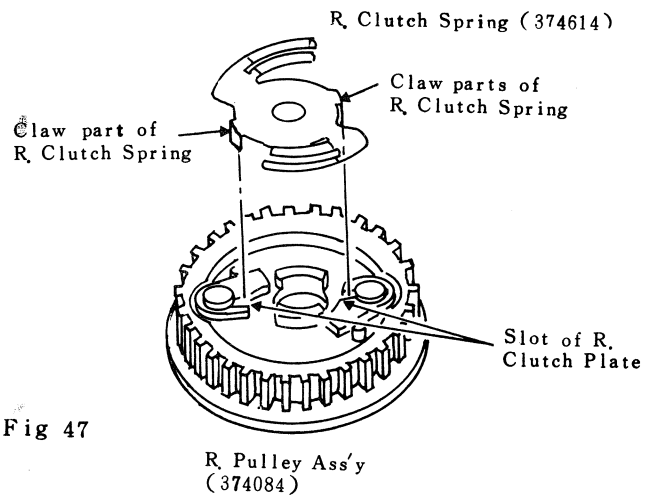

Fig 47
- 1) Insert claw parts of R. Clutch Spring (374614) into the slot of R. Clutch Plate as shown in (Fig 47).